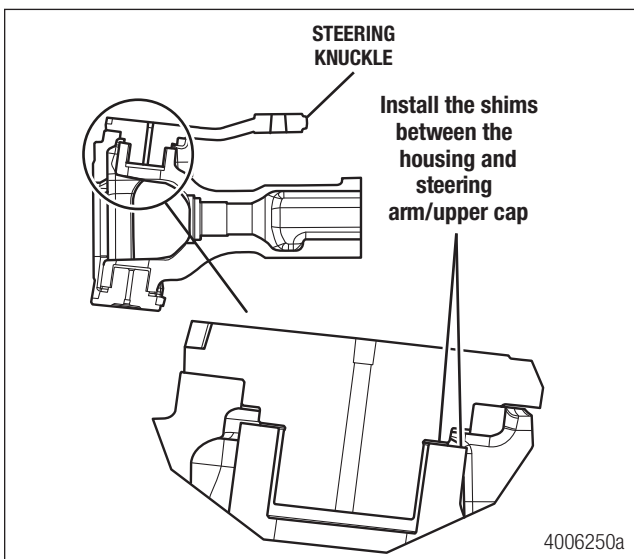

Figure 7.12
- d. Fully release the jack pressure and read the end play on the dial indicator. Correct end play is 0.005-0.015-inch (0.127-0.381 mm). Remove or add shims from between the upper knuckle cap/steering arm and the axle housing to obtain the correct end play. Figure 7.12.